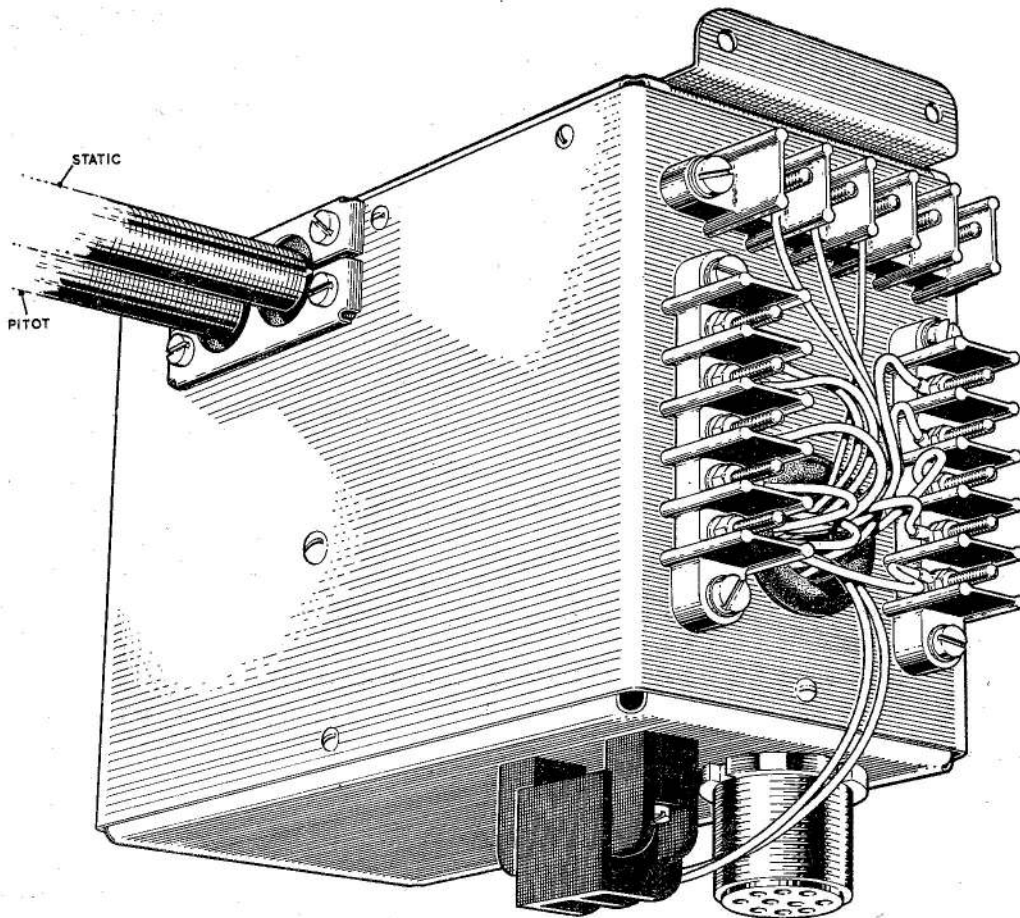

Fig. 1. General view of unit
1. The air speed datum and relay box (fig. 1) is used in the Sea Vixen Auto-throttle system. Its function is to provide an air speed signal of approximately 130 knots and to provide a correct switching sequence for the a.c. and d.c. supplies and safety circuits. A pitch angle signal is also routed through the unit to the actuator amplifier. The unit is located in the pilot's cockpit, and is mounted upside down beside the actuator amplifier.